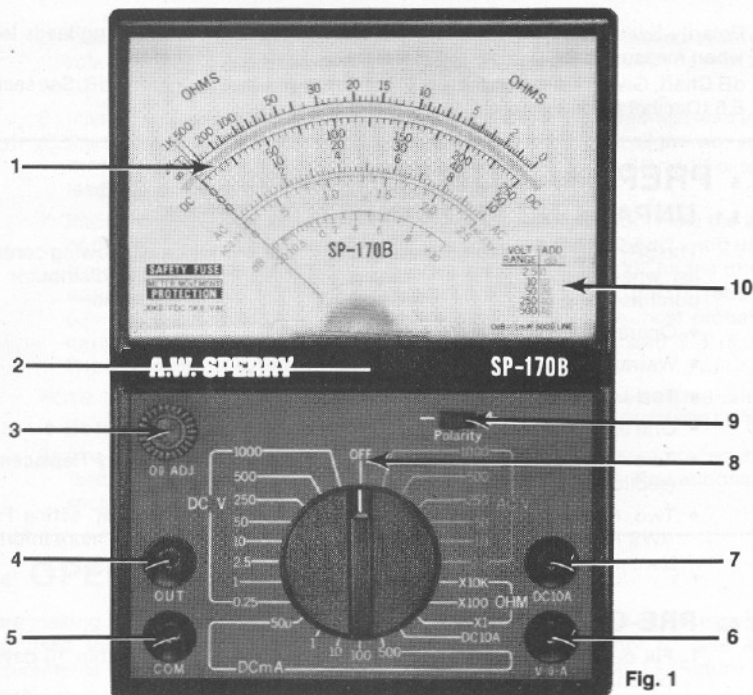

Fig. 1
Sec. 4 FRONT PANEL CONTROLS AND INDICATORS (See Fig. 1)
2. Inspect the instrument for any external defects by comparing with the diagram on page 3, Fig. 1. If any abnormal conditions exist, do not take any measurements. Refer to section 7 (Maintenance and Repair) for Repair).